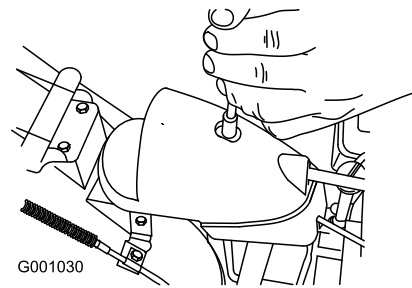

Figure 57
- Remove the fastener on the gear cover (Figure 57), lift the front of the cover up, and slide it back and out of the way.